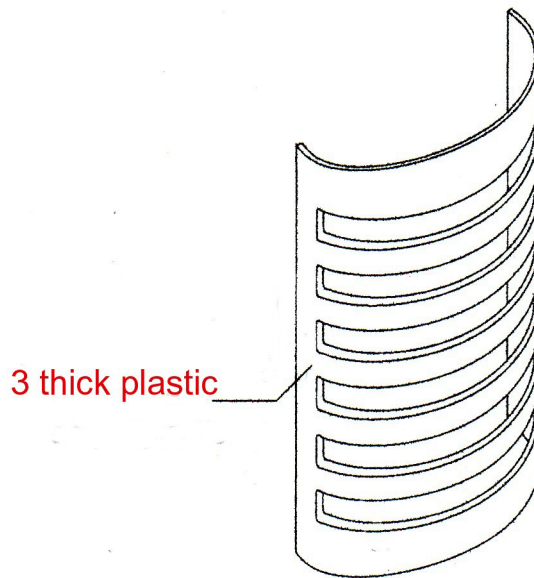

Fig.5
- 4 Fig. 5 shows a wall-mounted DVD rack. The DVD rack is produced by injection moulding.
Use sketches and notes to show a modification to the DVD rack shown in Fig. 5 so that it could be wall-mounted.